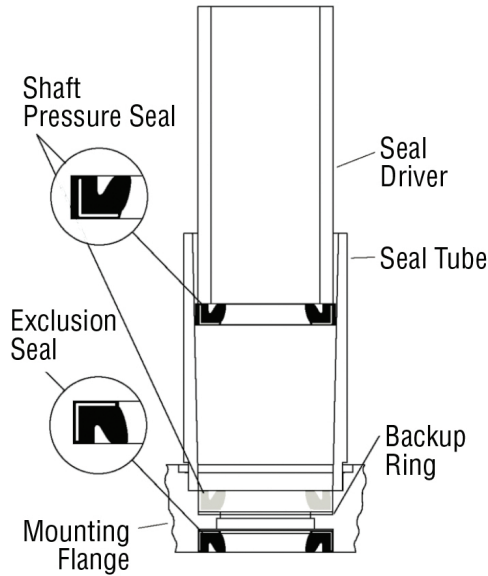

Figure 5-50, Seal Installation
10. Install the exclusion seal into the mounting flange. Carefully press the exclusion seal into place. (Figure 5-50)